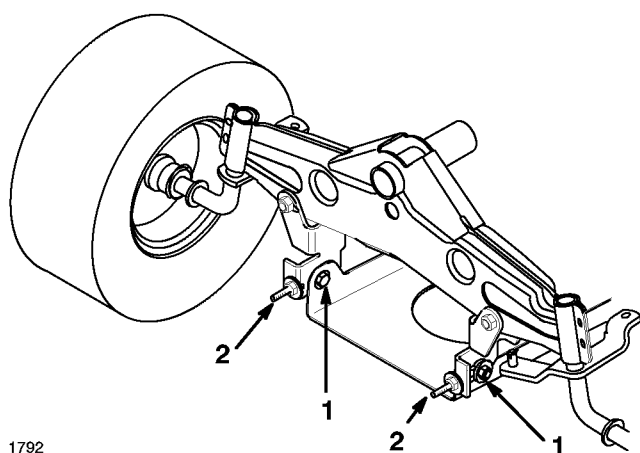

Figure 53
7. To adjust front-to-rear blade slope loosen front pivot plate mounting bolts slightly (Fig. 53).
8. Rotate lock nuts on eyebolts to change adjustment (Fig. 53). To raise the front of the mower, tighten the eyebolt lock nuts. To lower the front of the mower, loosen the eyebolt lock nuts.
9. After adjusting both eyebolt lock nuts evenly, check the front-to-rear slope again. Continue adjusting eyebolts until the front blade tip is 0-3/8" (0-9.2 mm) lower than the rear blade tip (Fig. 53).
10. When front-to-rear slope is correct, tighten the pivot plate mounting bolts (Fig. 53).